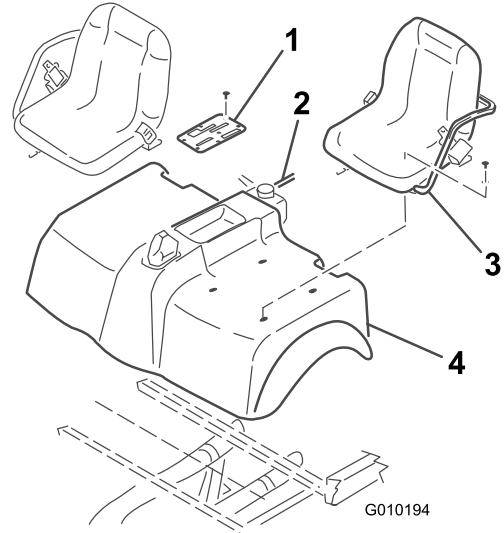

Figure 3
4. Remove (6) screws securing outside edge of center console cover plate to frame and remove cover plate (Figure 3).
5. Disconnect the reservoir hose from the radiator and plug or clamp it to retain coolant (Figure 3). Remove the operator shield from the ROPS.
6. Remove the capscrews securing the seats and shroud to mounting brackets (Figure 3). Remove the seats and shroud.